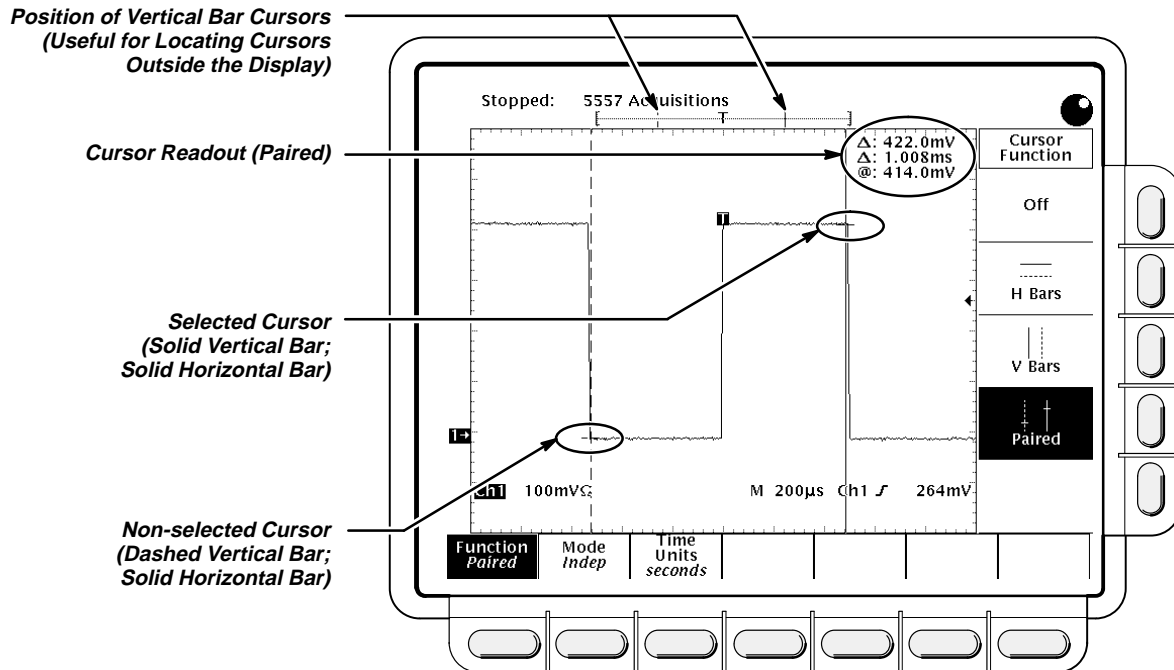

Figure 3-7: Paired Cursor Menu and Readouts
- Paired:** the value after one Δ shows the voltage difference between the two short horizontal bars; the other Δ shows the time (or frequency) difference between the two long vertical bars. The value after @ shows the voltage at the short horizontal bar of the selected cursor relative to ground (see Figure 3-7).